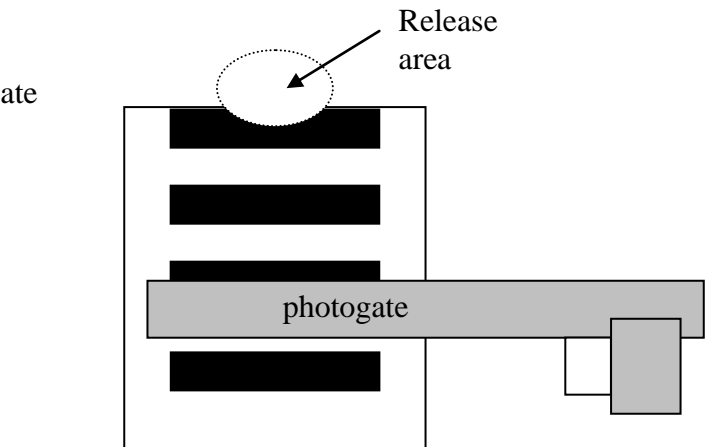

Figure 5.2: Picket Fence
- c. To achieve vertical alignment of the “Picket Fence” hold it between your thumb and forefinger, centered at the top of the bar, before releasing (See Fig. 5.2).